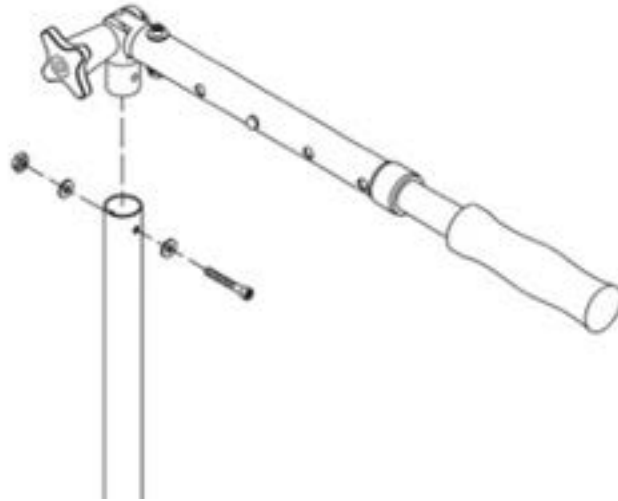

FIGURE 4.
STEP 4. Install the Handle Assembly into the down tube using one 10-24 x 1-3/8" Socket head bolt, two washers and one Ny-loc nut as seen in Figure 4.